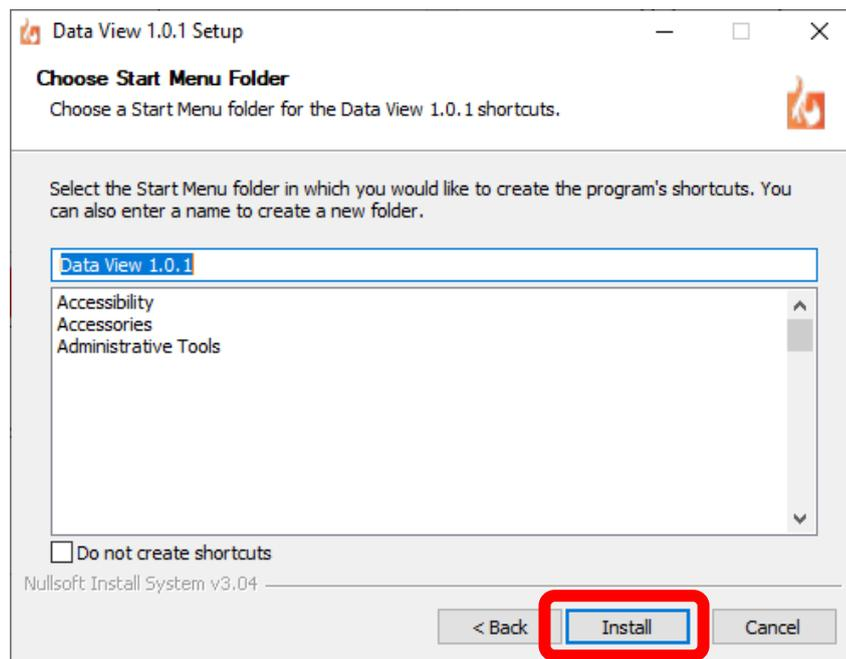

Figure 6: Installation – 'Start Menu' folder name
- Next, you can choose to rename the folder the program will be accessible under in the 'Start Menu'. The default is "DataView X.X.X" (where X.X.X is the version number). Once you've chosen your desired name, click 'Install' – as highlighted in Figure 6 below – to proceed.